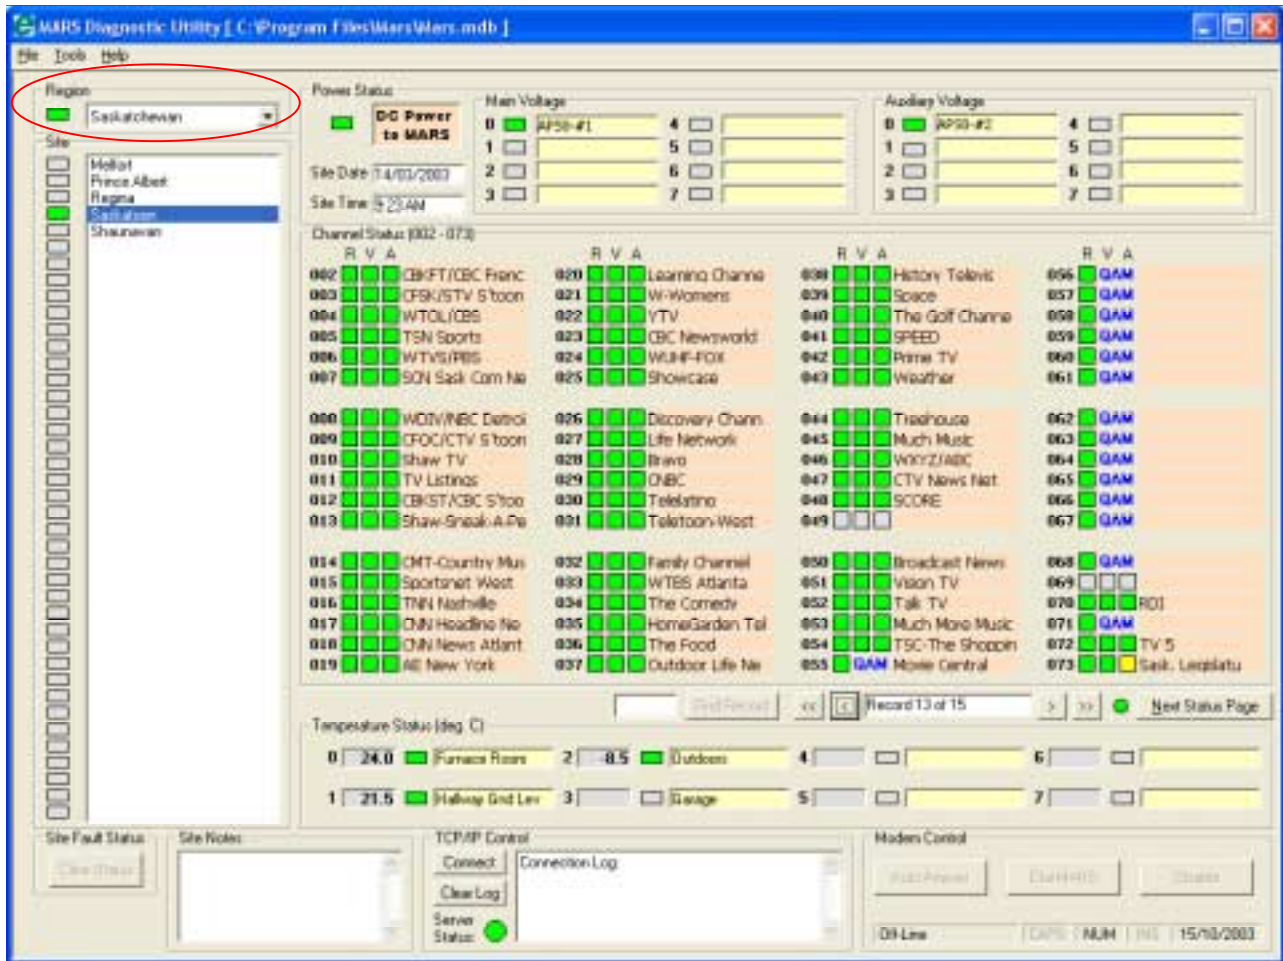

Figure 17: MARS Diagnostic Utility (MDU) Main Screen
- The Region can be selected by clicking on the combo box at the upper left corner of the MDU (See **Figure 17**, below). Selecting the region will cause the Site list box to be filled with associated sites.